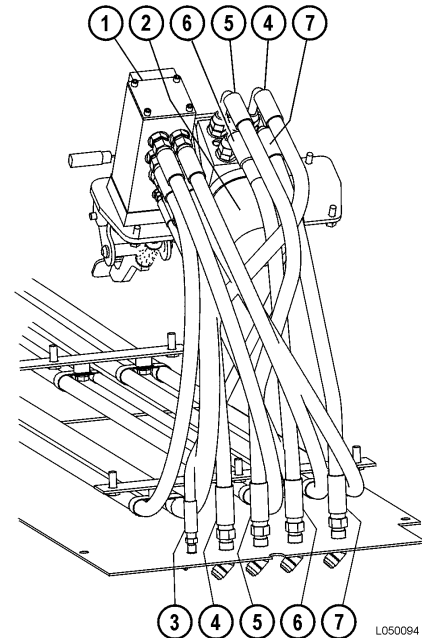

FIGURE 5-2. STEERING CONTROL UNIT
3. Tag all hydraulic lines for proper identification during installation. Disconnect the hydraulic lines (see Figure 5-2) at the steering control unit. Plug all hoses.